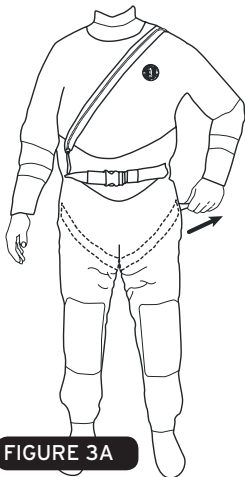

FIGURE 3A
2. After donning, tighten the removable waist belt to a comfortable position [Fig 3A]. When used correctly, the waist belt will help to distribute the load of the suit evenly, reducing fatigue during long operations.